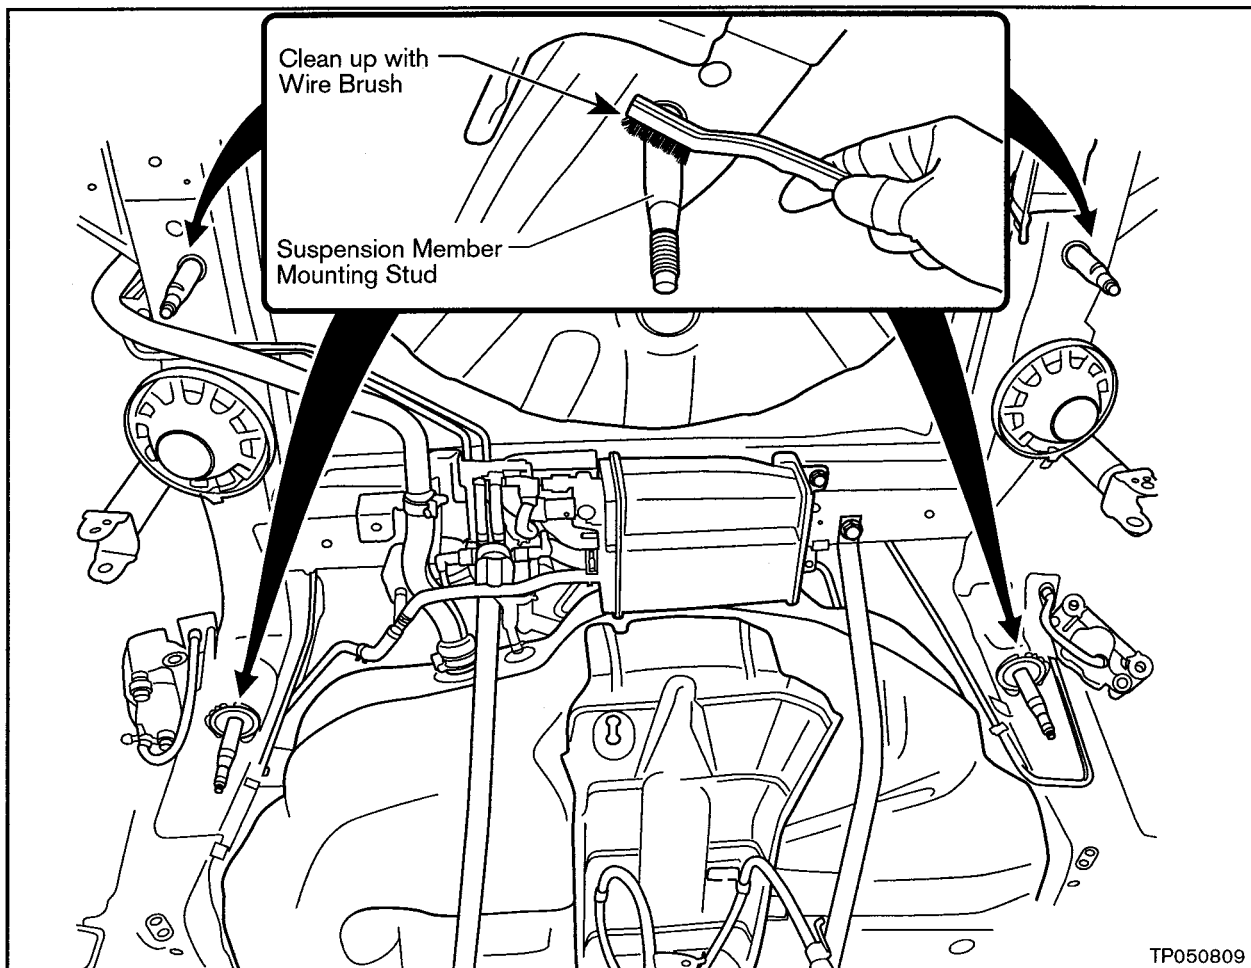

Figure D1
2. Clean and “prep” the four suspension member mounting studs (welded to the vehicle body) as follows (see Figure D1).